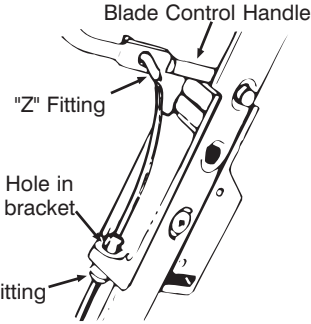

Figure 3
- The brake cable is attached to the engine, and has a "Z" fitting on the loose end. Route the brake cable over the lower handle. Place end of cable through the hole in the control box as shown in figure 3. Push the plastic fitting until it locks into the hole in the throttle box.
- Move the blade control handle away from the upper handle. Hook the "Z" end of the brake cable into the hole in the blade control handle from the outside to the inside as shown in figure 3.